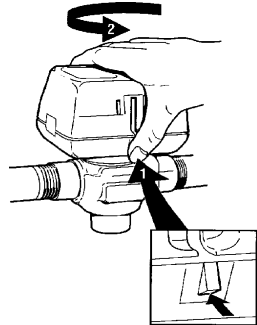

Figure 3 - Latch Mechanism to detach Actuator
1. The actuator head is automatically latched to the valve. Align the coupling hole in the bottom of the actuator with the valve stem. Press the actuator down towards the body with moderate hand force and turn the actuator counter-clockwise by 1/8 turn (45 degrees) to line up the actuator with the piping. The lock will click when engaged. See Figure 3.